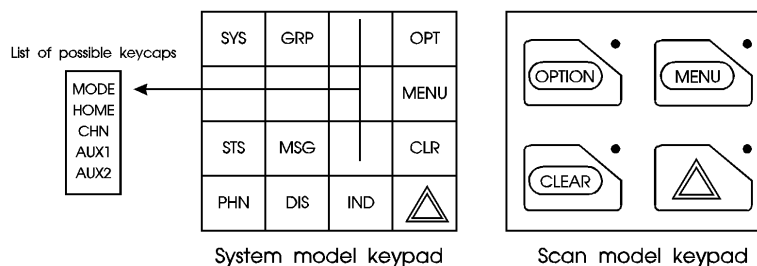

Figure 5 - Standard M7100^{IP} Keycaps Configuration
The Standard keycap package for the System radio includes five (5) labeled keycaps (MODE, HOME, CHN, AUX1 and AUX2) and six (6) blank keycaps, which can be placed on any of the five key locations (numbers 3-6 and 9) shown in Figure 5. The keycap represents the primary function programmed for that key location. See the **Key Descriptions** section for a description of the primary function associated with these five (5) keycaps.